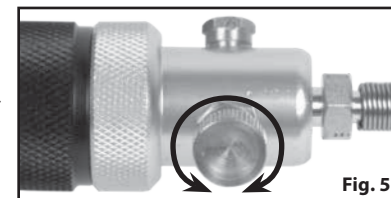

Fig. 5
10. BLEED the fill hose COMPLETELY to avoid hose whip from pressure in the fill hose (Fig. 5).
7. BLEED the fill hose COMPLETELY to avoid hose whip from pressure in the fill hose (Fig. 5).